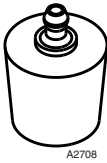

Figure 11—Flow monitoring adapter
2. Plug the flow monitoring adapters (figure 11) into the Q5016. Insert the manometer tubes onto the adapters, “low side” to the outlet tube adapter and “high side” to the inlet tube adapter using the air flow monitoring adapters.